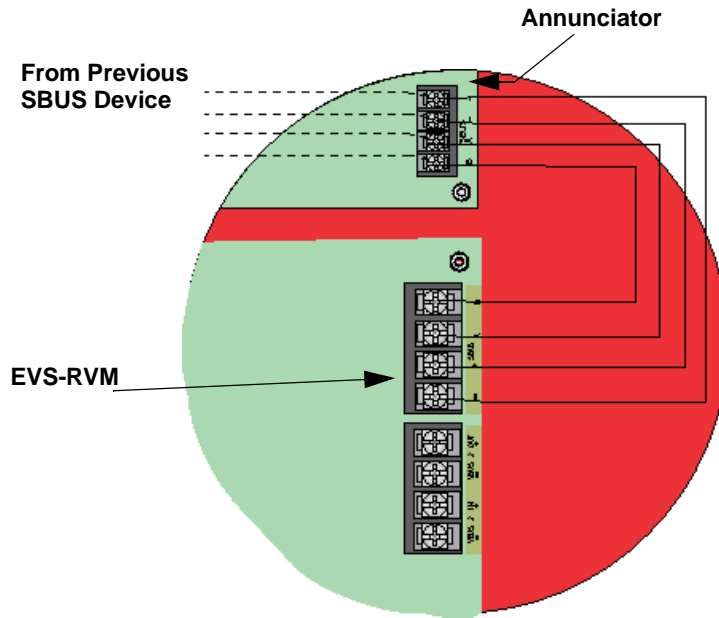

Figure 4.52 SBUS Wiring for EVS-RVM
3. Connect the SBUS to the annunciator and EVS-RVM. See Figure 4.52.